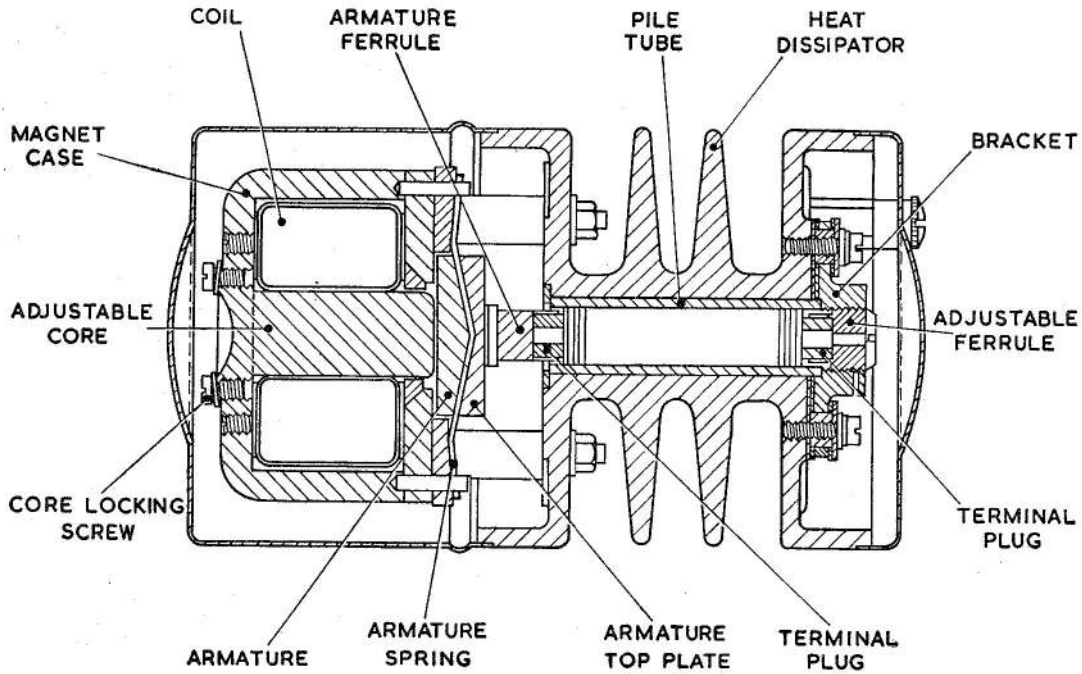

Fig. 1. Voltage regulator, Type 108
2. This regulator (*fig. 1*) is of the single carbon pile type, and in general construction and principle of operation is similar to the standard design described in A.P.4343, Vol. 1, Sect. 6, Chap. 1. It incorporates the later flap type armature spring, with a bi-metal